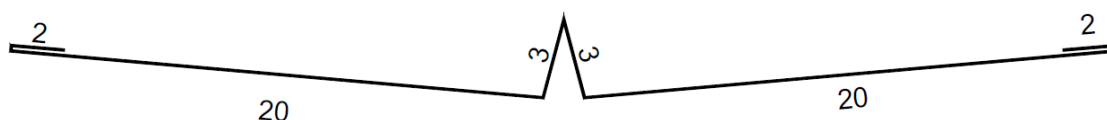

Fig. 15 - Metal flashing profile
- As for the roof valleys, prepare a band of bituminous membrane about 100cm wide, applied by torch in advance, to ensure its waterproofing. Install a copper metal valley flashing above the membrane, with a shape similar to Fig. 15, along the centre of the valley.
- As for the roof valleys, prepare a band of bituminous membrane about 100cm wide, applied by torch in advance, to ensure its waterproofing. Install a copper metal valley flashing above the membrane, with a shape like Fig. 15, along the centre of the valley.